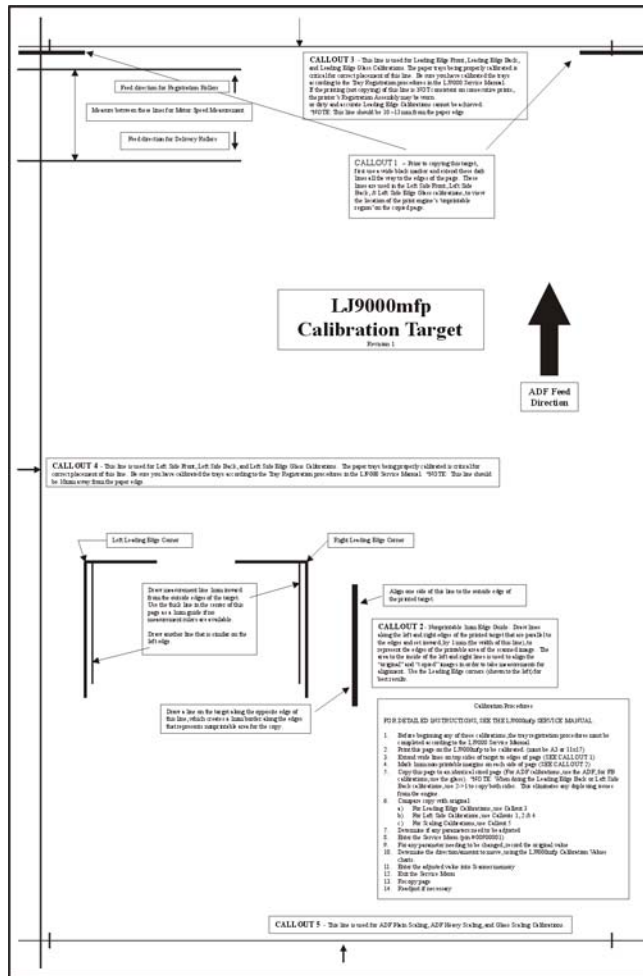

Figure 211. Left side front calibration (1 of 4)
- 2 On the MFP to be calibrated, print the calibration target on ledger or A3 paper. See figure 211.
- 2 On the MFP to be calibrated, print the calibration target on *heavy* ledger or A3 paper. See figure 211.